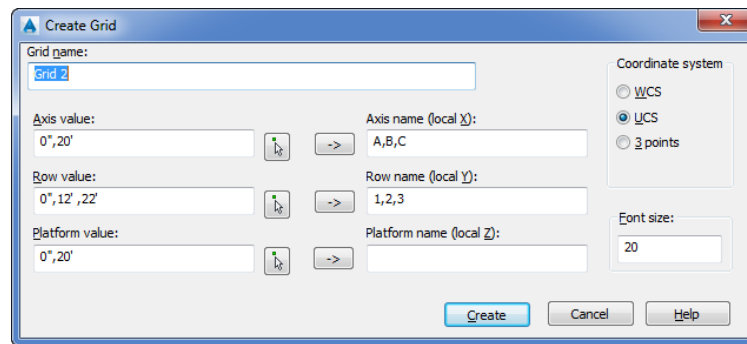

Figure 3-37 Values specified in the **Create Grid** dialog box
- In this dialog box, specify the values, as shown in Figure 3-37.